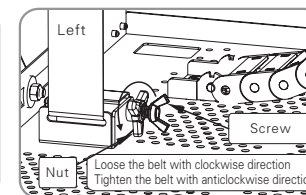

Figure 16
- Left height adjustment (Figure 16), firstly unscrew the left adjusted nut from middle to left, then you can release or tighten belt by turning left screw. Turning clockwise to release belt and would lower height of left side. Inversely, turning counterclockwise to tighten belt and upper height of left side.